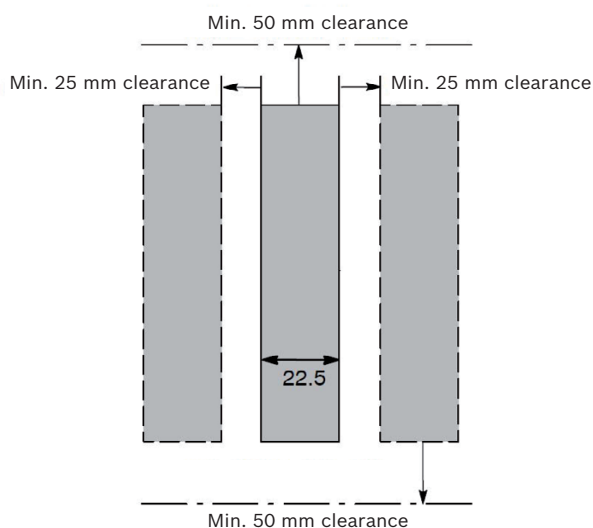

Fig. 6: Required clearance
- ▶ Ensure sufficient air circulation by providing space to the right, to the left, top and bottom. See Fig. 6.